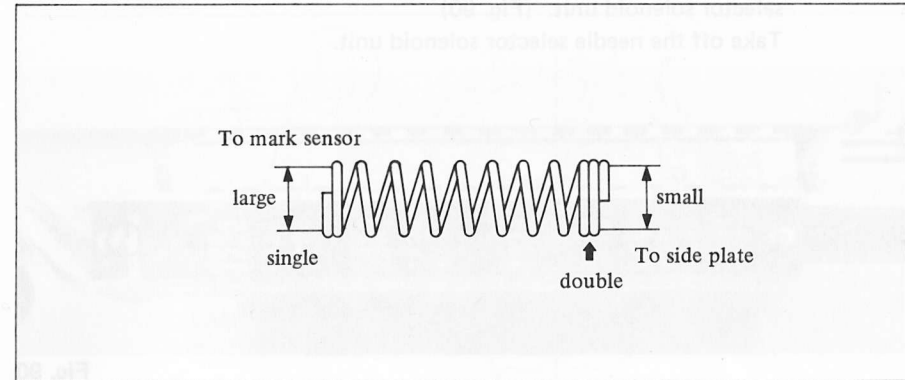

Fig. 94
- The spring has a single winding side and a double winding side. (Fig. 94)